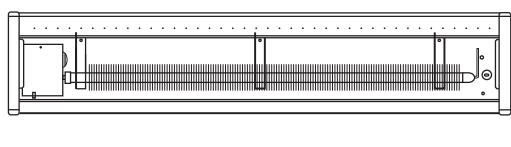

Figure 3
7. Position the heater and fasten one end of heater to wall stud with screw in safe drill area as shown in Figure 3. Before fastening to wall stud at other end, place level across top of heater and make sure heater is level. (Figure 4).